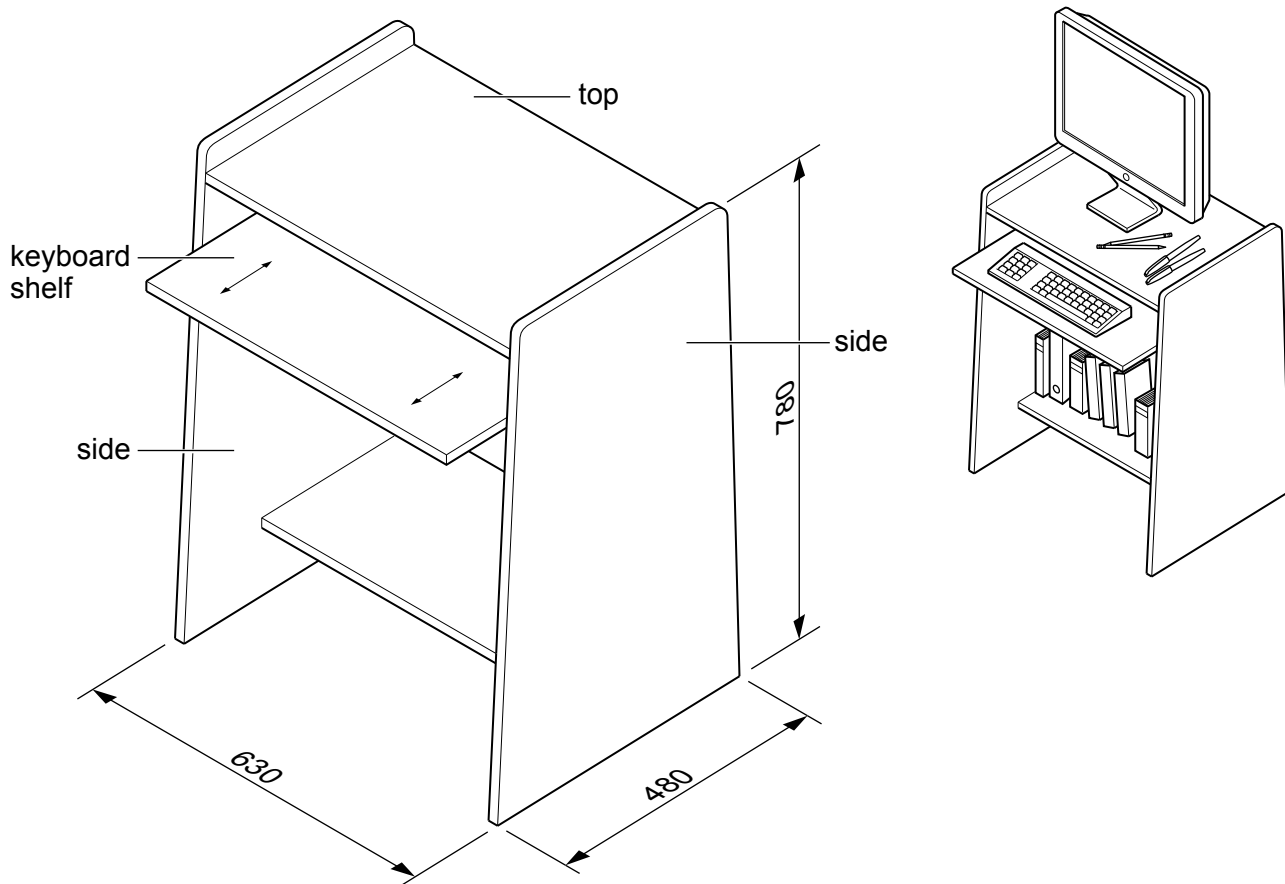

Fig. 12.1
12 Fig. 12.1 shows views of a computer desk made from 15 mm thick manufactured board. The computer desk will be sold as flat-pack furniture for self-assembly.
- (c) Use sketches and notes to show how the keyboard shelf could be made to move in and out as shown in Fig. 12.1. Include details of materials and constructions used.